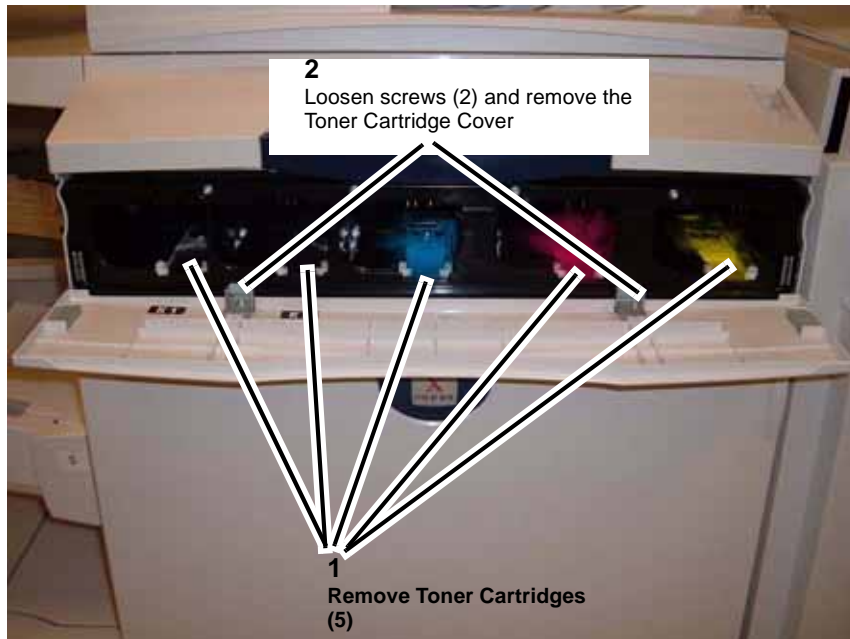

Figure 1 Removing the Toner Cartridges and the Toner Cartridge Cover
1. Remove the Toner Cartridges and the Toner Cartridge Cover (Figure 1).